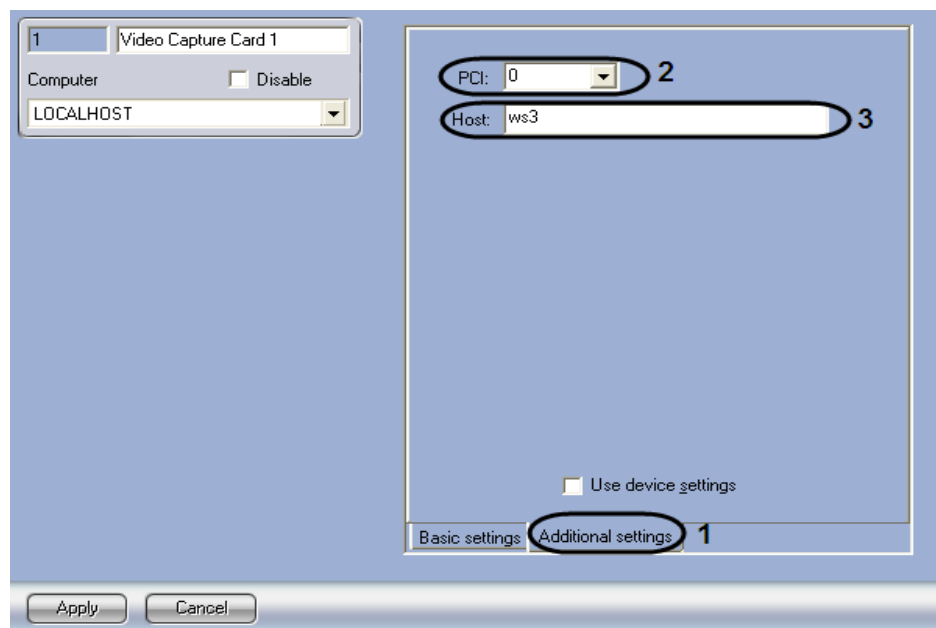

Figure 3.1-10 Setting panel of the Stretch video capture card. Additional settings tab
5. Go to the **Additional settings** tab (Figure 3.1-10, 1).
- 5.1. From the **PCI** list select number of a PCI channel (Figure 3.1-10, 2). Features of PCI channel distribution are given in *Creating and configuring the Video capture card object* section (see 5.2 step).
- 5.2. In the **Host** field enter the network name of computer (Figure 3.1-10, 3).